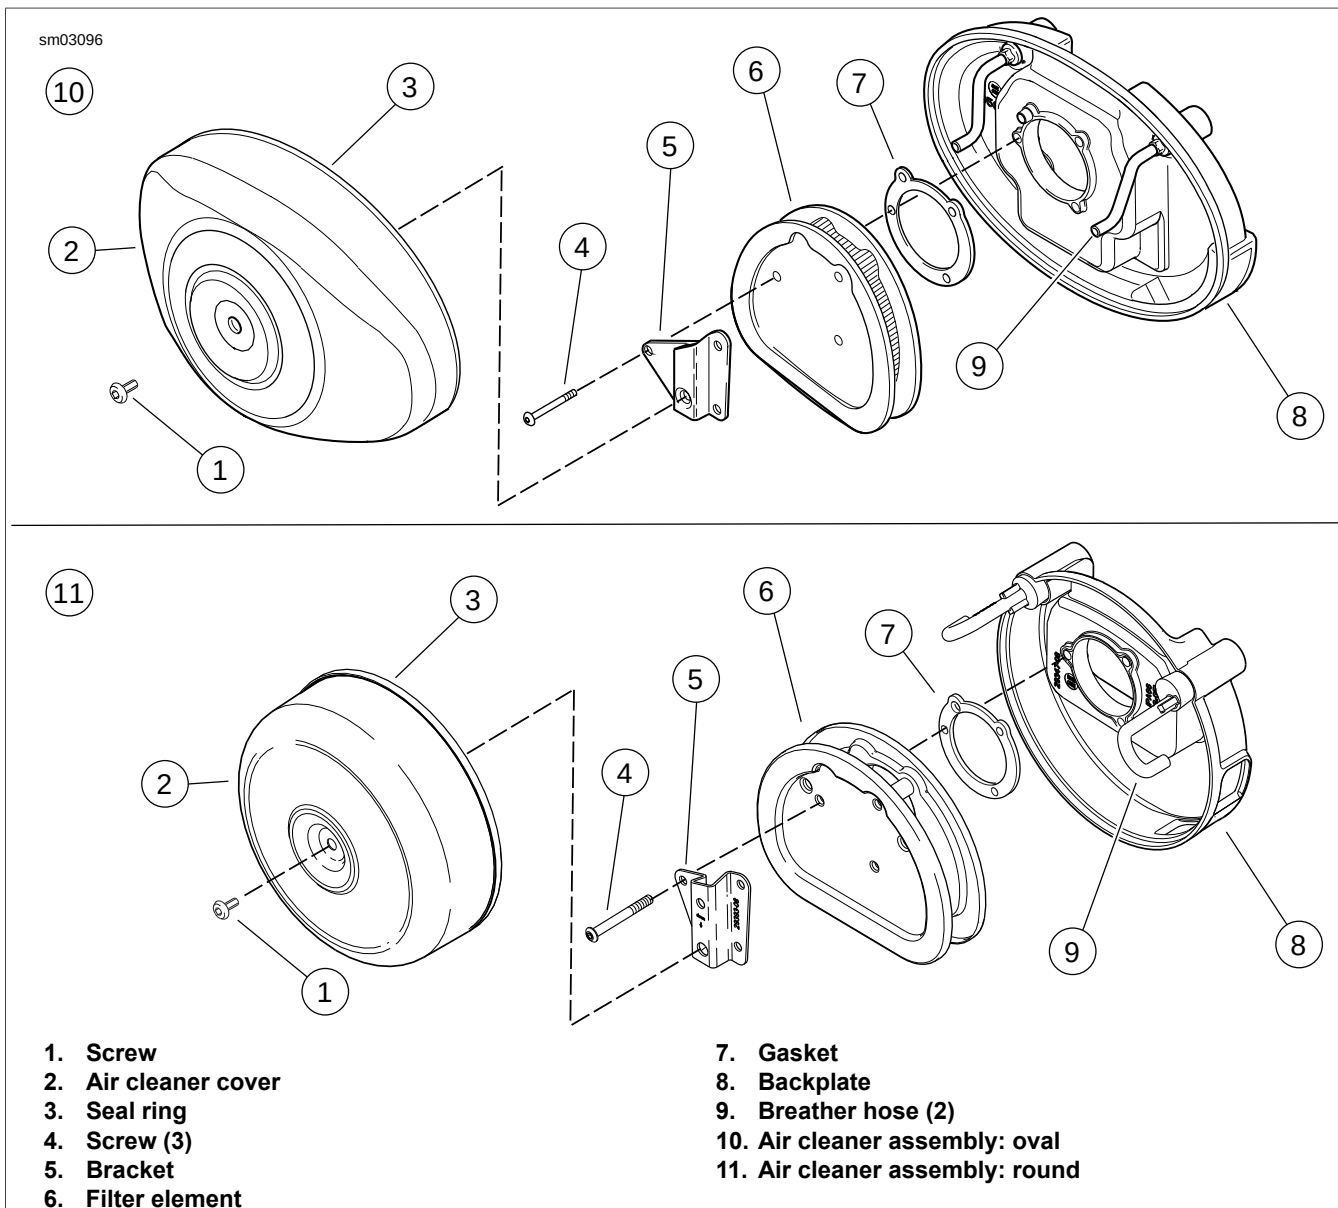

Figure 1-6. Air Cleaner Assembly
1. See Figure 1-6. Remove screw (1) and air cleaner cover (2).
2. Remove three screws (4) and bracket (5) from filter element (6).
3. Gently pull both rubber breather hoses (9) from the element. Remove filter element (6) and gasket (7).
- See Figure 1-6. Install air filter element and bracket.
- Use three screws (4) to secure bracket and filter element. Tighten to 40-60 **in-lbs** (4.5-6.8 Nm).
- Install air filter cover (2).
- Apply a drop of LOCTITE 243 MEDIUM STRENGTH THREADLOCKER AND SEALANT (blue) to threads of air cleaner cover screw (1).